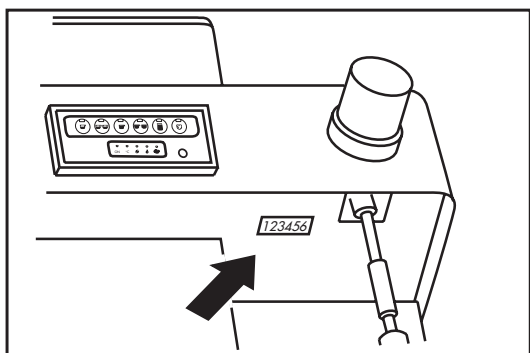

Fig. 14
- **Maintenance:** It's recommended to have routing maintenance carried out by an authorized dealer. This will ensure proper function of the machine and optimum results. As for the cleaning schedule see warranty certificate or follow schedule recommended at the time of purchase. Check the number of the cycles on the counter located under the upper panel of the machine (fig.14)